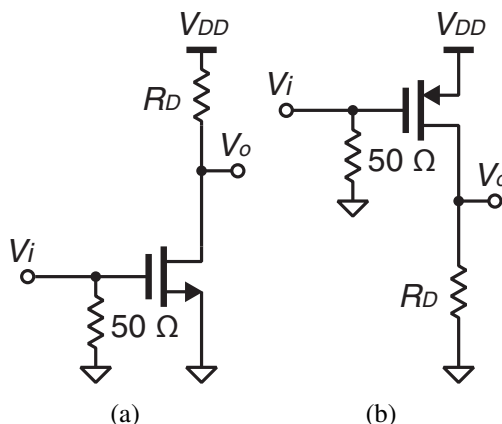

Figure 2: (a) NMOS and (b) PMOS common-source amplifiers with a $50\text{-}\Omega$ input impedance.
1. Implement the common-source amplifier on the breadboard. Connect a 50- Ω resistor across the input and the ground as shown in Figure 2 . This resistor is important for the voltage reading of the signal generator to be correct. Most of the signal generators have a 50- Ω output impedance and the voltage reading is correct only if its load is 50 Ω . **You will need this 50- Ω termination many times in future labs when you use a signal generator although it won't be explicitly shown in lab manuals.**